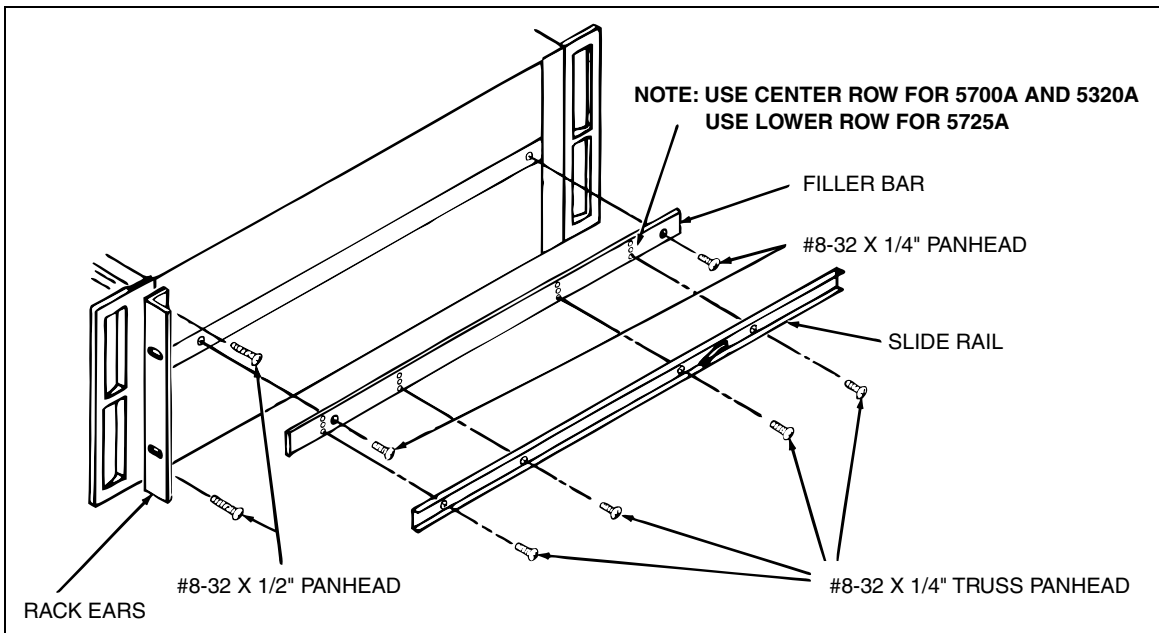

Figure 1. Attaching Hardware to the Instrument
1. Attach the rack ears to the instrument using two #8-32 x 1/2" pan-head screws for each ear as Figure 1 shows.
2. Install the filler bars on the sides of the instrument using two #8-32 x 1/4" truss-head machine screws per bar as Figure 1 shows, making sure the first tapped hole closest to the end of the bar is toward the front of the instrument.
3. Attach the slide rails to the filler bars using four #8-32 x 1/4" truss-head machine screws per rail as Figure 1 shows. Mount the 5700A and 5320A slide rail to the center row of holes. Mount the 5725A slide rail to the lower row of holes. (See Figure 1.)